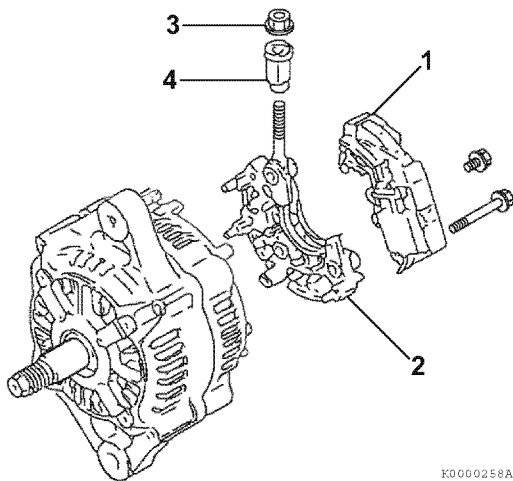

Figure 12-7
- Remove the bolt retaining the regulator assembly (Figure 12-7, (1)) to the holder (Figure 12-7, (2)).
- Remove the bolts retaining the holder (Figure 12-7, (2)) to the rear frame housing. Remove the holder.
- Remove the nut (Figure 12-7, (3)) retaining the insulation bushing (Figure 12-7, (4)). Remove the insulation bushing.